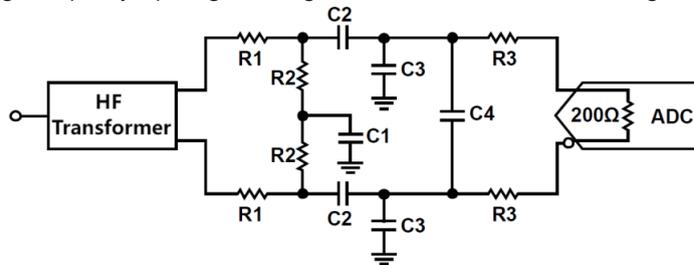

Figure 4. Low-frequency input signal configuration
- Recommended low-frequency and high-frequency input signal configurations are shown in Table 1 of Figure 4.